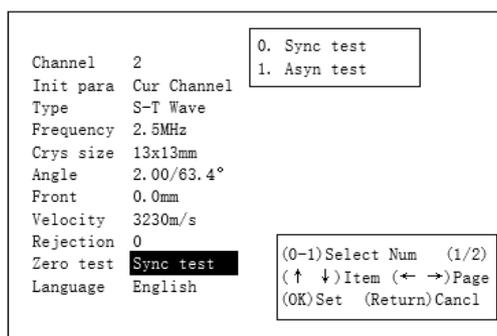

Figure2-18
2.2.7.10 Zero Test Selection: Press , to synchronize the test inverse display, as shown in Figure 2-18.